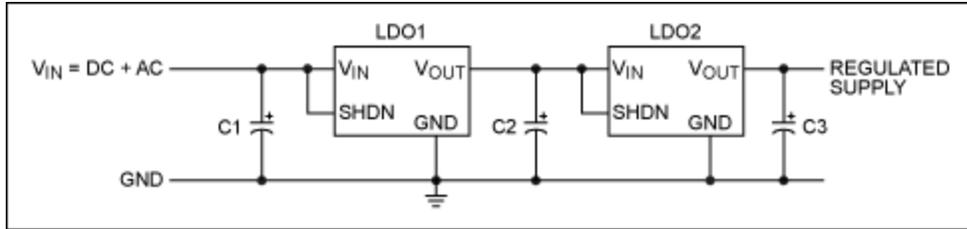

Figure 5. Series cascade of LDOs for input ripple isolation.
- An Additional Linear Regulator.** This method occupies a small PCB area (e.g., two SOT23-5 packages) and requires the least design time of the other methods. Using two linear regulators in series doubles the PSRR at any given frequency (assuming identical regulators). The "penalty" for this approach is the doubling of the dropout voltage and the need for an additional capacitor. A good design choice is to share the voltage drop across each regulator. Two MAX8867 regulators in series provide at least 80dB of PSRR at 100kHz, and the total assembly requires three 1μF ceramic capacitors, one each at the input, output, and the intermediate position. **Figure 5** shows two linear regulators cascaded in this manner.